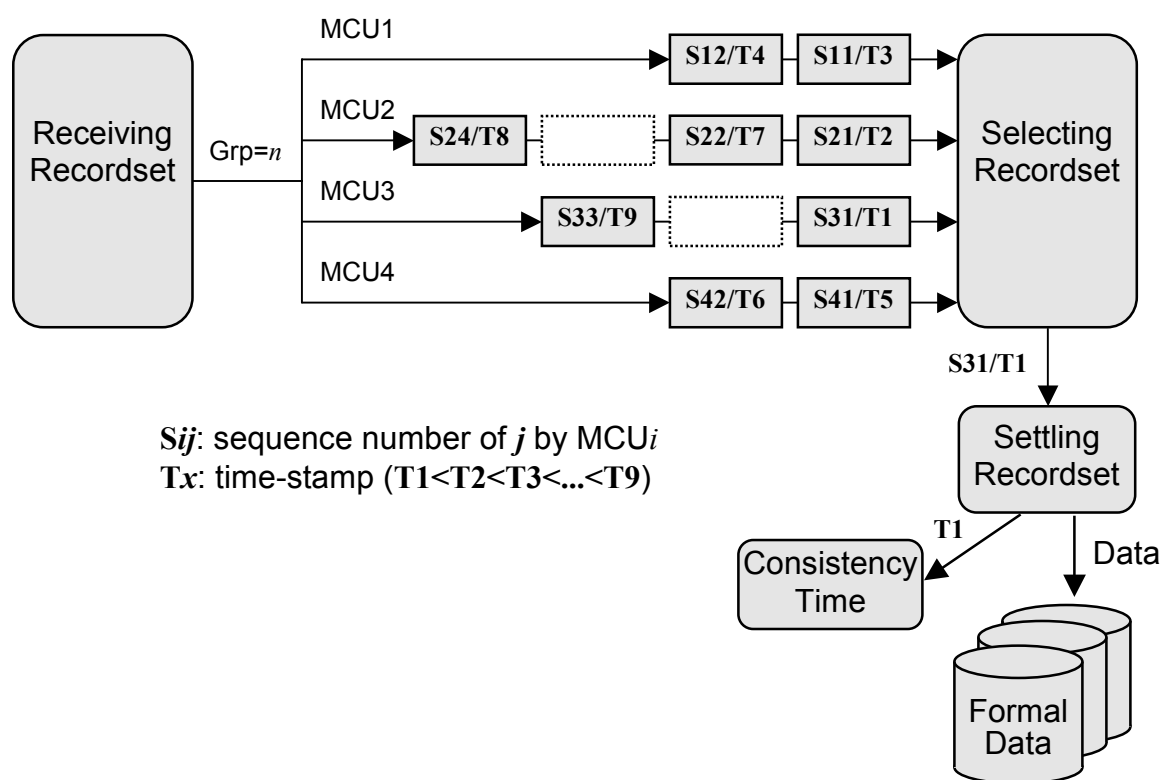

Figure 3.17.3-1 Example of Selecting Recordset at the RCU
- ① Checks if there are the valid entries at the top of all the queues in the consistency group. If one of them is empty, the RCU waits for the entry.
- ② When all the top entries are filled with the valid Sidefiles, the RCU selects one entry that has the smallest time-stamp. It can be settled.
- ③ Repeats step 1 and 2.
- Figure 3.17.3-1 shows an example. All the top entries are filled with the recordsets of S11/T3, S21/T2, S31/T1 and S41/T5. The RCU selects the recordset of S31/T1 to be settled because the T1 is the smallest time-stamp. Then the top entry S31/T1 is removed from the MCU3's queue. The S32 becomes the top but it is empty. The next recordset S11/T2 will be selected when recordset S32 arrives and its time-stamp is smaller than T2.